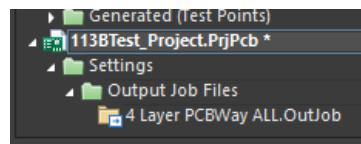

Figure 1: Output job folder.
3. The .OutJob file should show up in the folder Settings/Output Job Files in Altium as shown in Fig. 1.